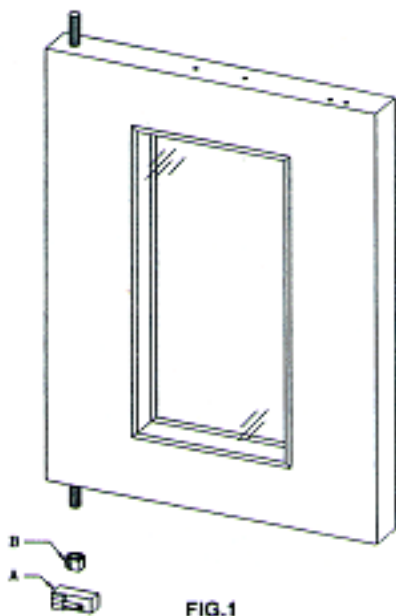

FIG.1
The door switch is located behind the lower front cover, on the right or left side. (Fig.1) The door switch (A) is activated by a cam (B) which is mounted to the door's hinge pin with a set screw. Position the door so it is nearly closed but not latched. To adjust the cam: